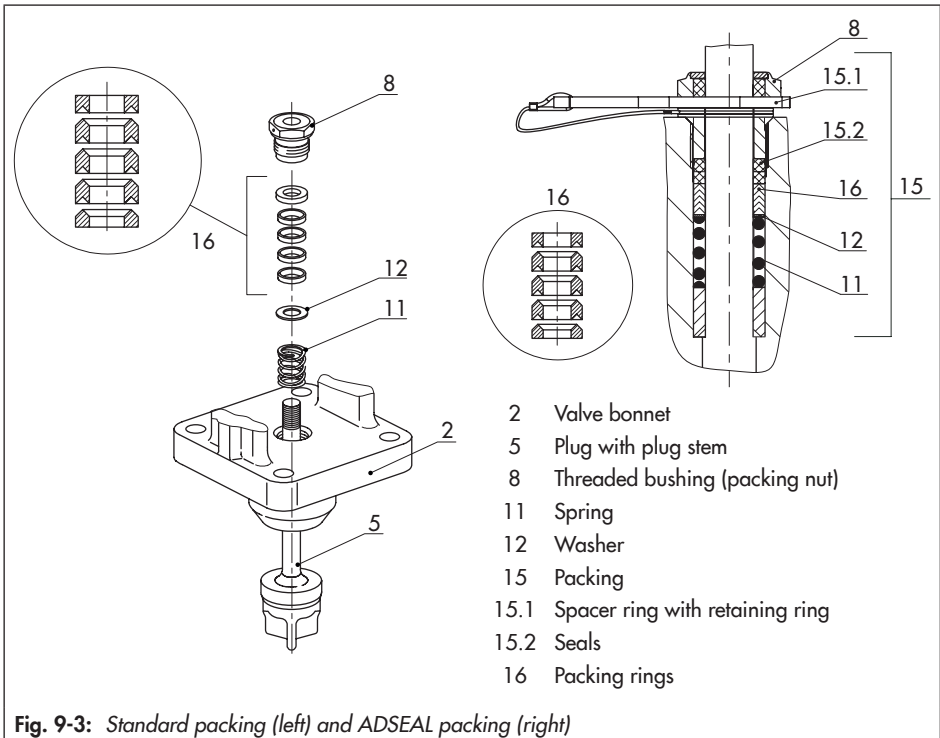

Fig. 9-3: Standard packing (left) and ADSEAL packing (right)
11. Carefully slide the packing parts over the plug stem into the packing chamber using a suitable tool. Observe the proper sequence (see Fig. 9-3).
12. Firmly press the plug (5) into the seat (4). Fasten down the flange (2) with the body nuts (14). Tighten the nuts gradually in a crisscross pattern. Observe tightening torques.
13. Screw in the threaded bushing (8) and tighten it. Observe tightening torques.
14. Loosely screw the lock nut (10) and stem connector nut (9) onto the plug stem.
- Spring (11)
- Washer (12)
- Packing rings (16)
- Insert the red spacer ring (15.1) between the threaded bushing (8) and retaining ring. See Fig. 9-3.
- Carefully slide the packing parts over the plug stem extension into the packing chamber using a suitable tool. Observe the proper sequence (see Fig. 9-3).
- Fasten the valve bonnet with nuts (33) and bolts (32). Observe tightening torques.
- Screw in the threaded bushing (8) and tighten it. Observe tightening torques.
- Loosely screw the lock nut (10) and stem connector nut (9) onto the plug stem.
4. Insert the red spacer ring (15.1) between the threaded bushing (8) and retaining ring. See Fig. 9-3.
14. Carefully slide the packing parts over the plug stem into the packing chamber using a suitable tool. Observe the proper sequence (see Fig. 9-3).
15. Firmly press the plug (5) into the seat (4). Fasten down the flange (2) with the body nuts (14). Tighten the nuts gradually in a crisscross pattern. Observe tightening torques.
16. Screw in the threaded bushing (8) and tighten it. Observe tightening torques.
17. Loosely screw the lock nut (10) and stem connector nut (9) onto the plug stem.